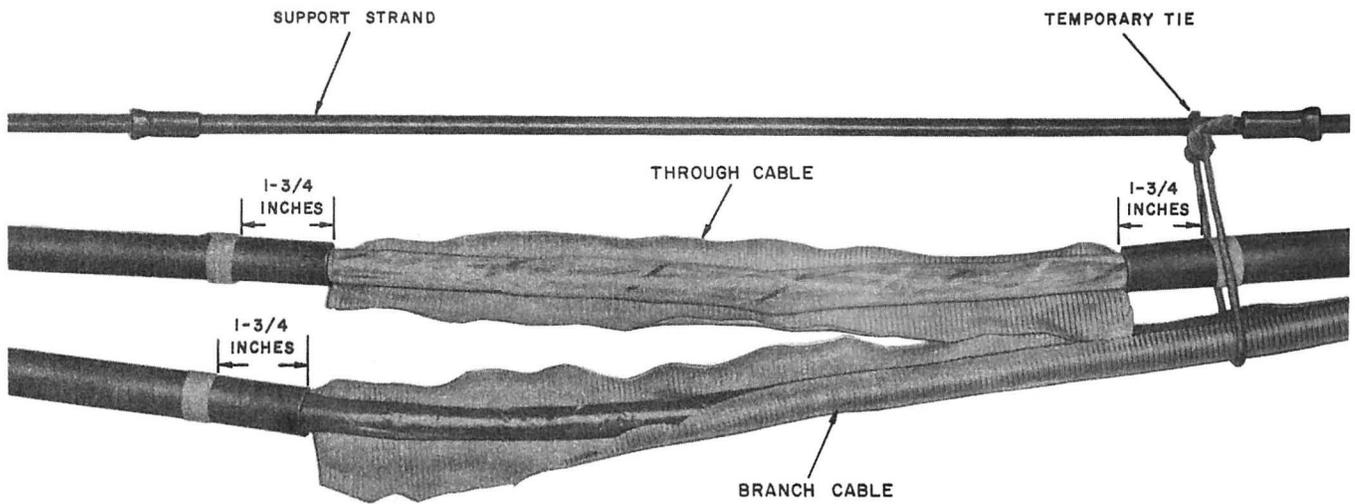

Fig. 27—Removing Metal Sheath
5.22 Cut and remove the metal sheath as shown in Fig. 27. *Wear gloves when removing the metal sheath.*